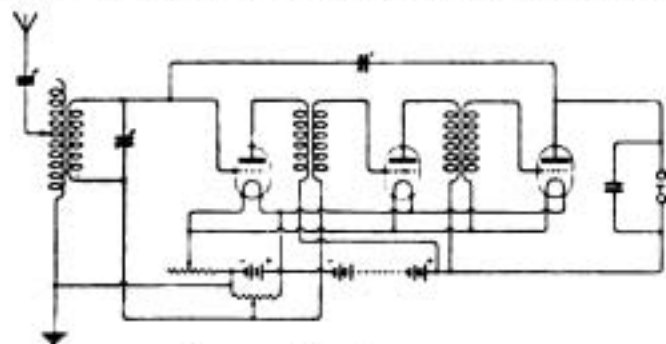

Fig. 3.
(1) A.T.I. coil 2½ in. diameter wound with 6 in. of No. 22. Secondary, 2 in. diameter, wound with 5 in. of No. 22, with a 0.0002 microfarad condenser across it.
(2) Arrange the circuit as in Fig. 3.
(3) No. 36 will make rather bulky transformers. For an intervalve transformer, wind 10,000 turns